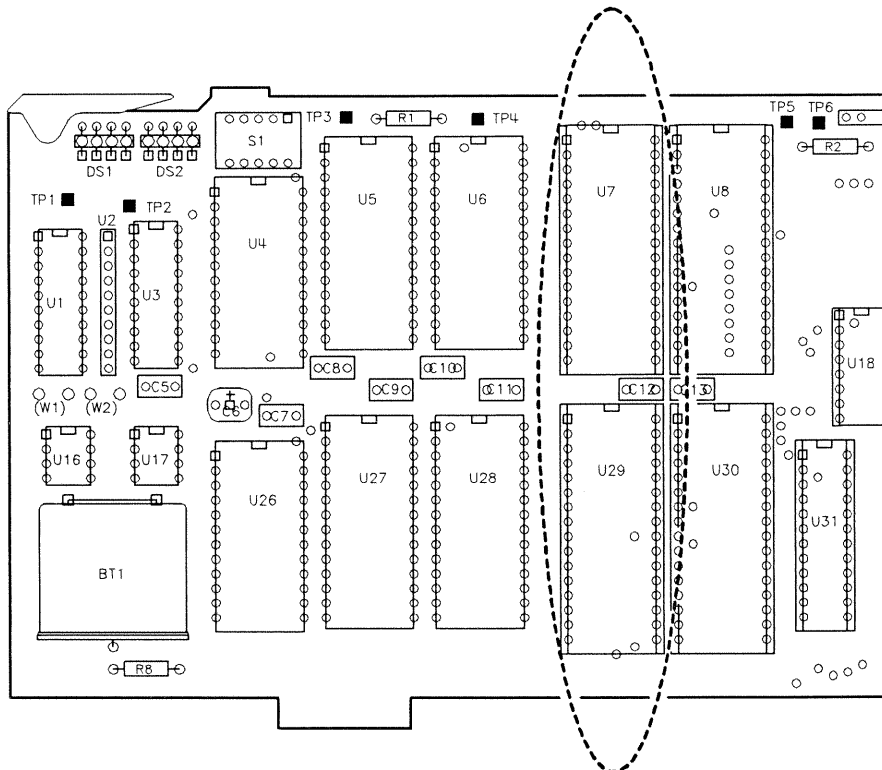

Figure 1-3. A3 EPROM Locations
17. Remove the two EPROMs (A3U7 and A3U29) from the A3 CPU board (see Figure 1-3) and replace them with the new ones provided. Ensure that they are installed in the correct location and in the proper orientation.